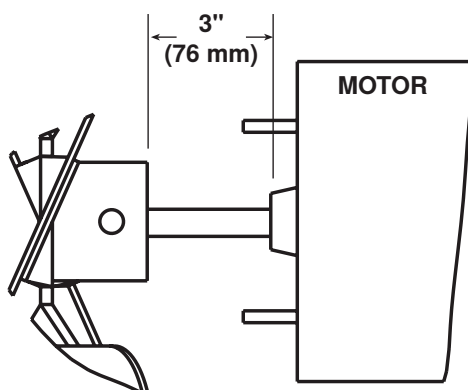

Figure 19. Fan Blade Positioning and Spacing
6. Ensure that fan blade is in proper position on shaft (see **Figure 19**).